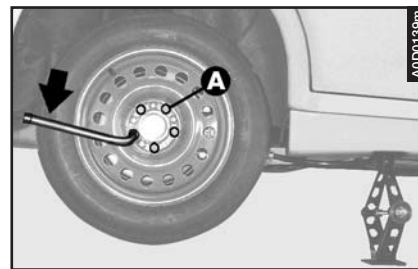

fig. 16
- Completely unscrew the fastening bolts (**A-fig. 16**) and remove the wheel.